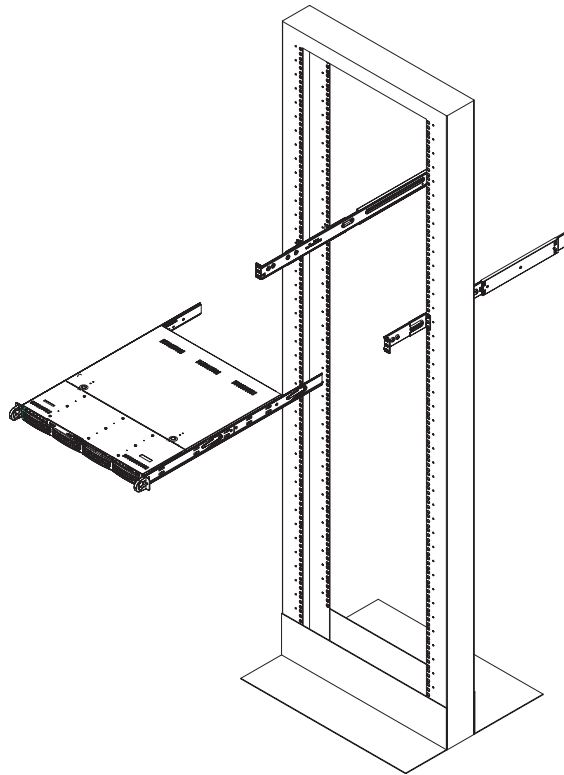

Figure 2-2. Installing the Server into a Telco Rack
3. Finish by sliding the chassis into the rack and tightening the brackets to the rack. See Figure 2-2.